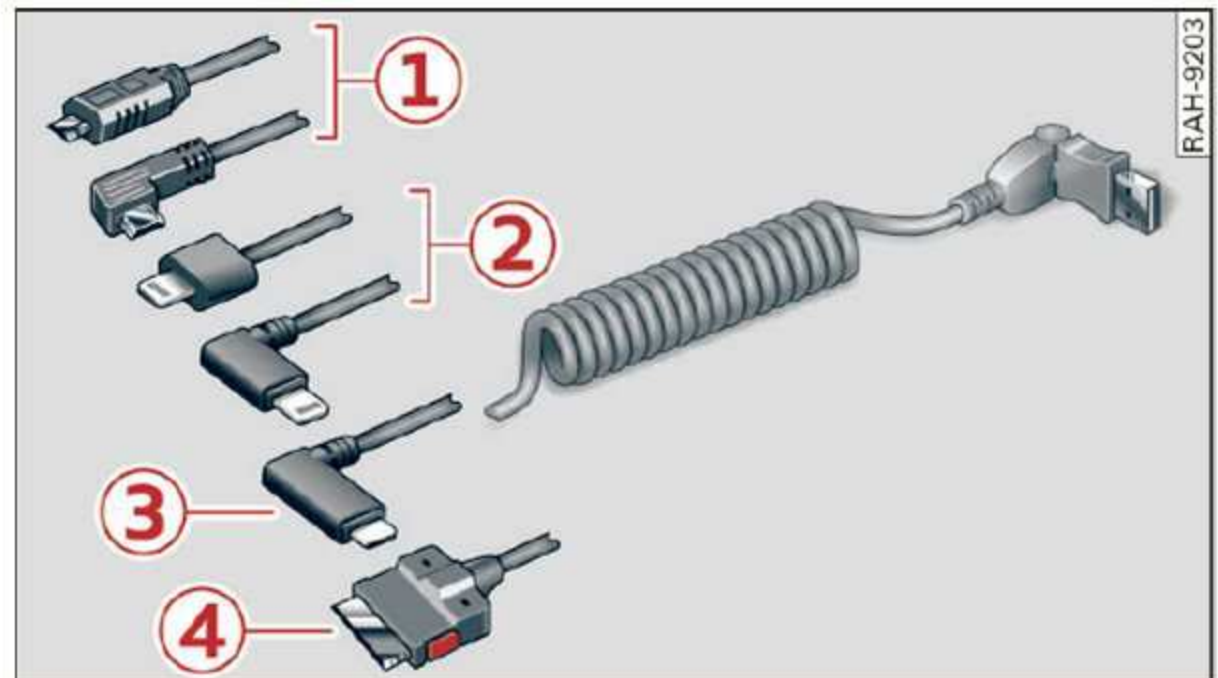

Fig. 135 Audi Genuine Accessories: USB adapter
- **Disconnecting mobile devices with an Apple Dock connector:** remove the Apple Dock connector from the Apple device with the release tabs pressed in (4) ⇒ page 158, fig. 135.